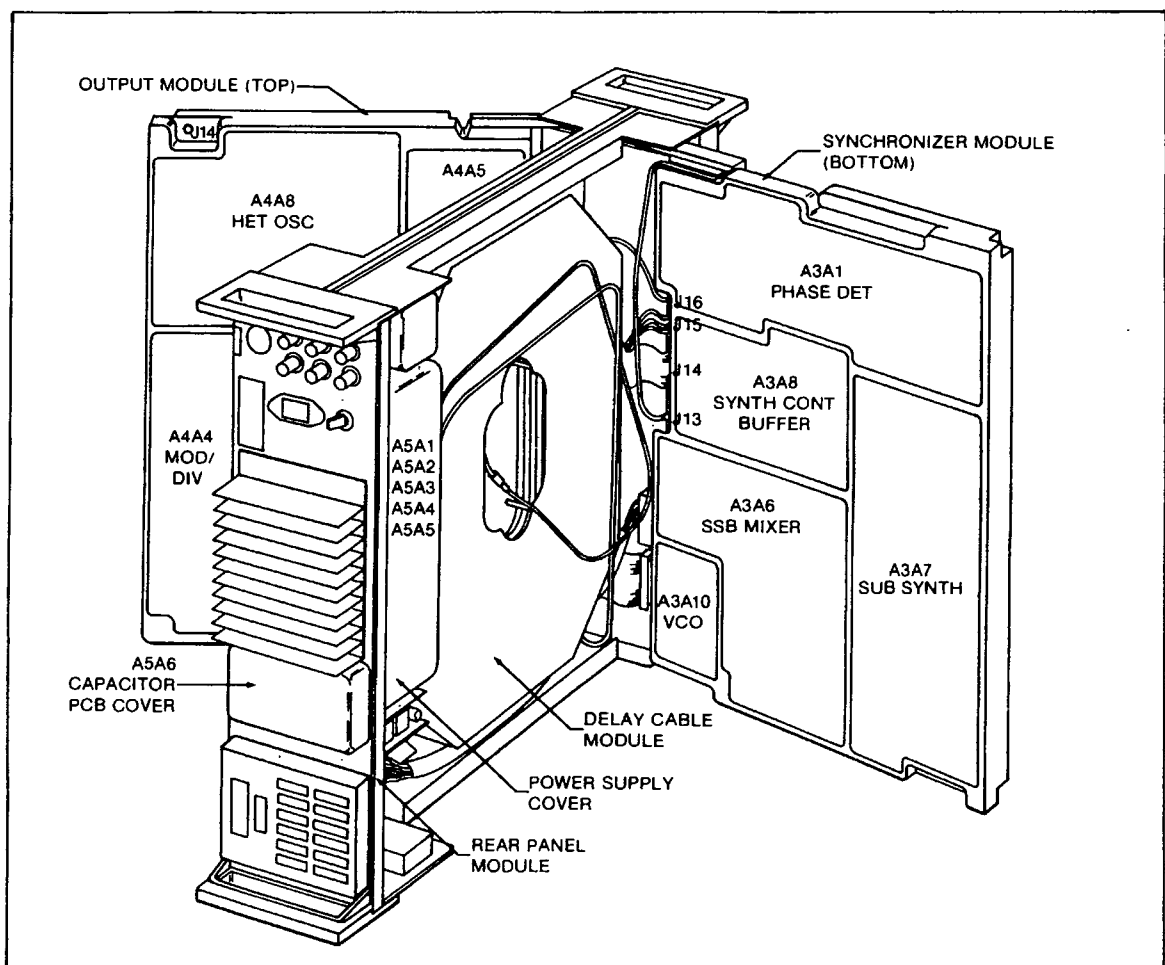
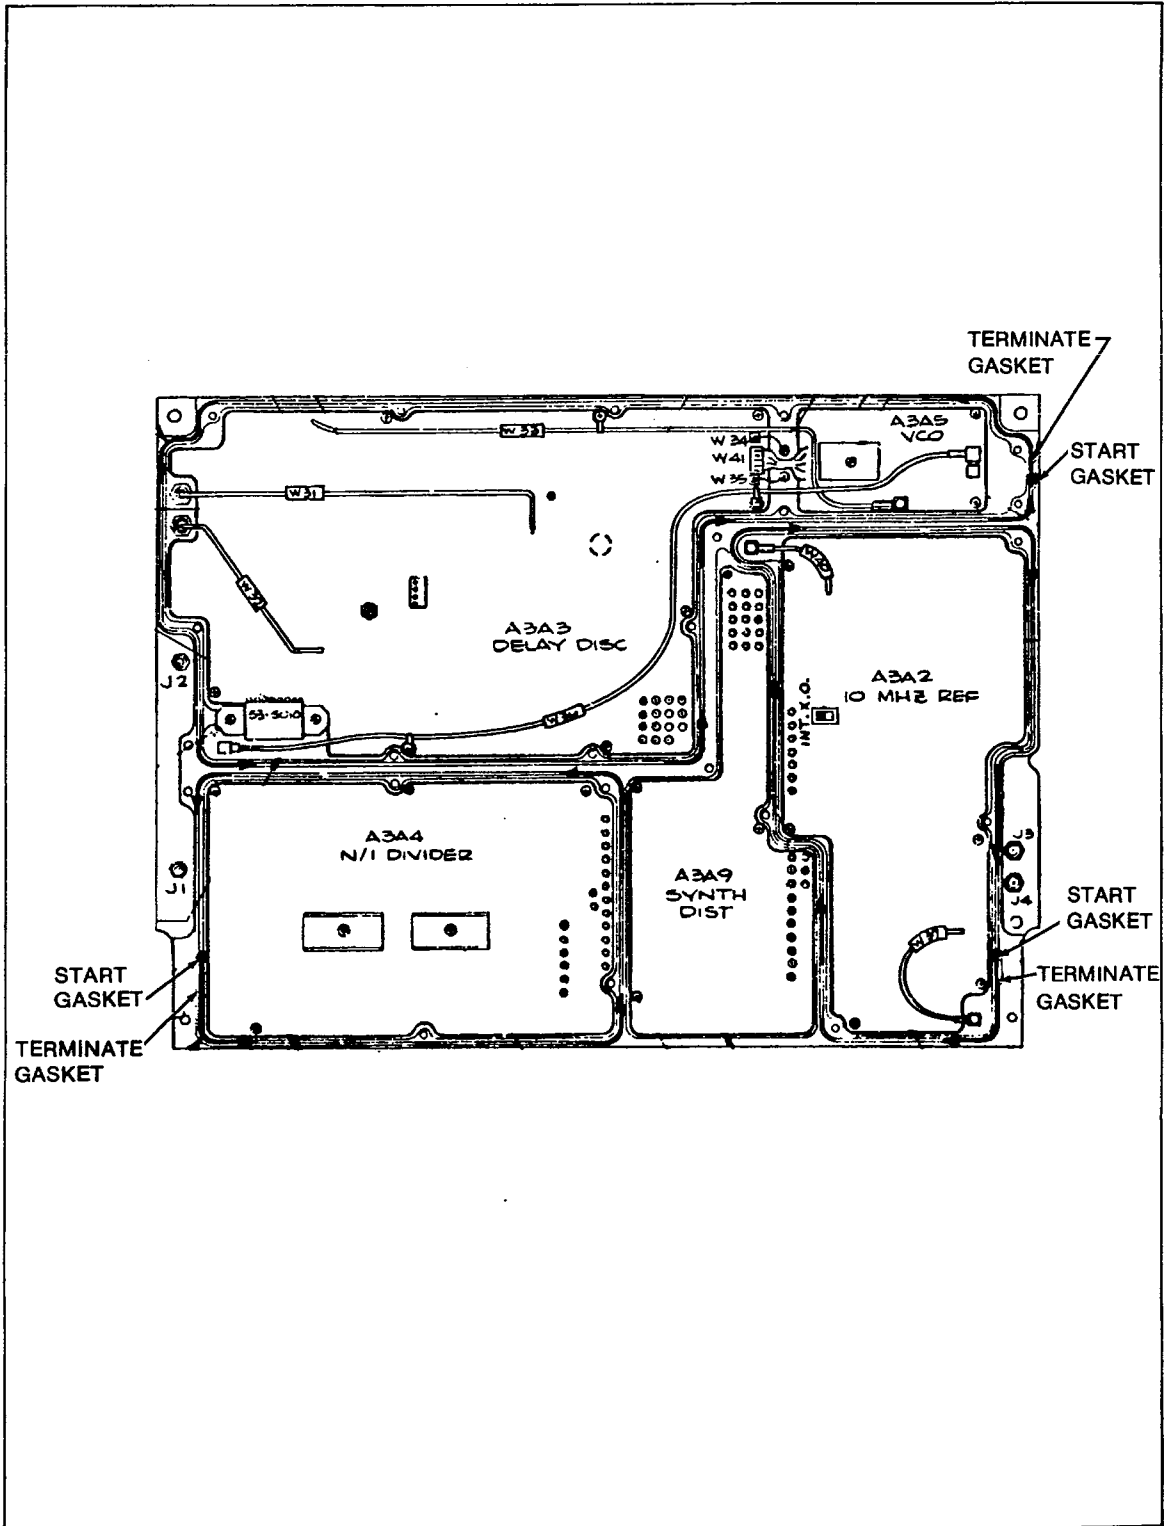
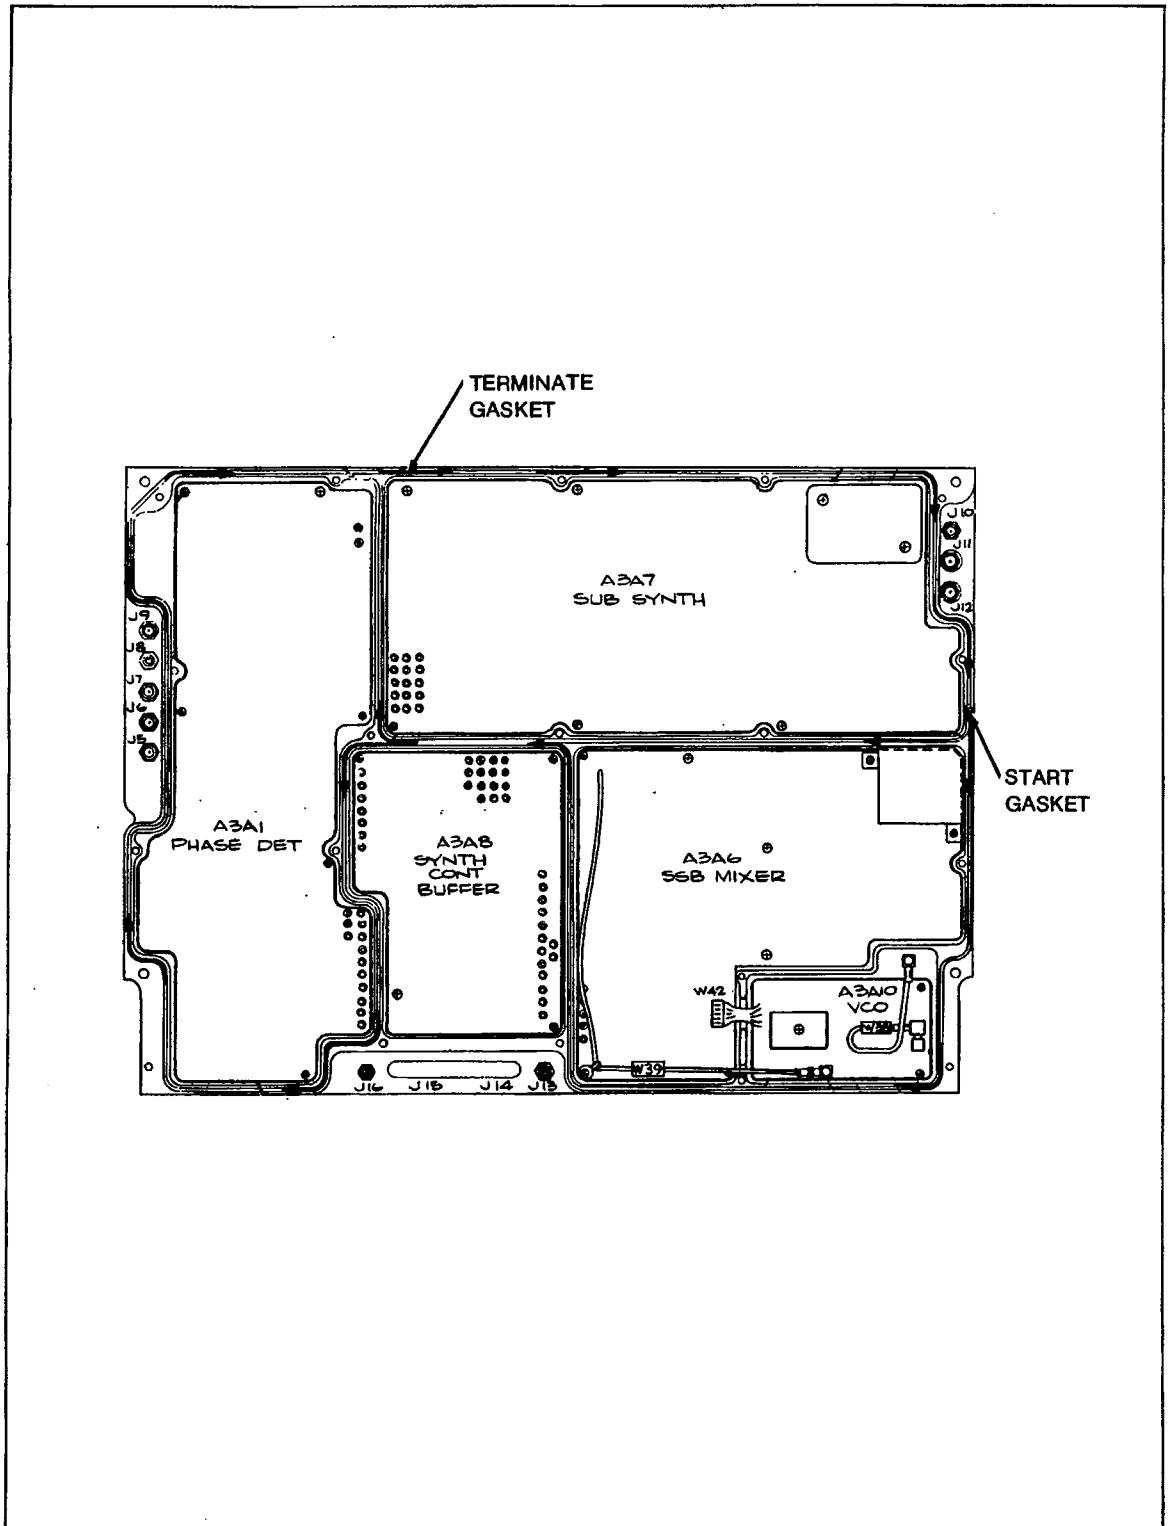
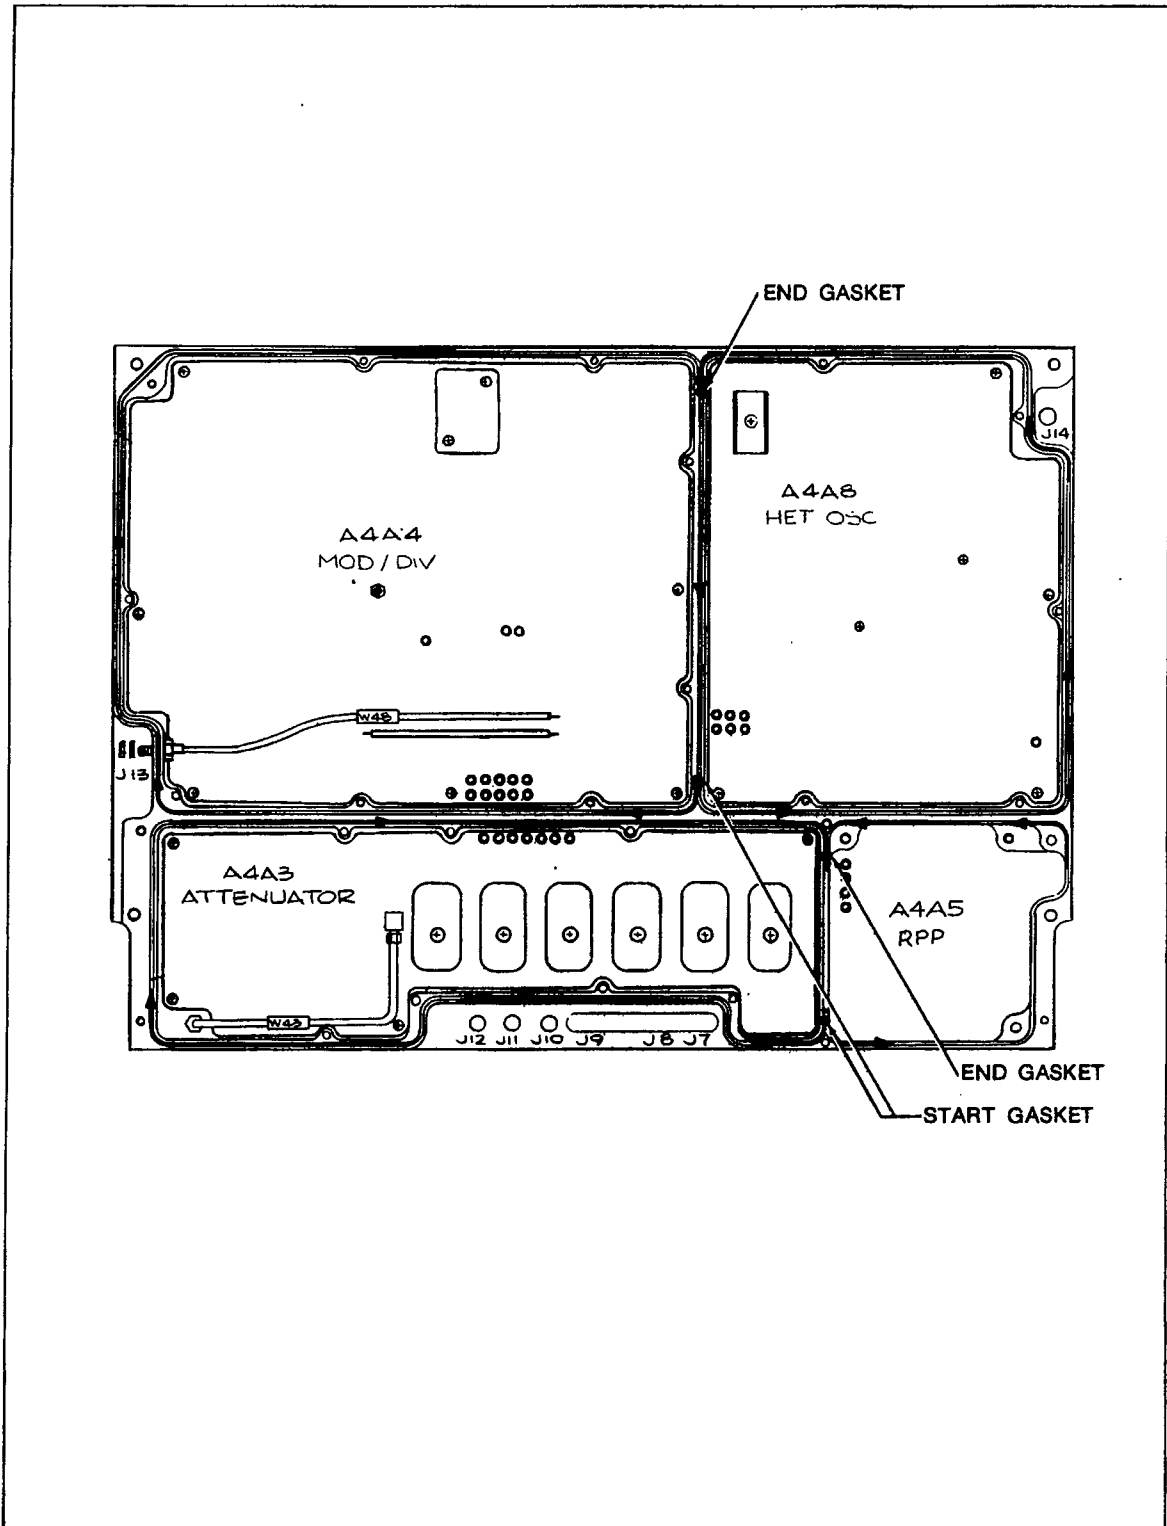

Figure 3-1. 6070A/6071A Opened for Maintenance
Figure 3-2. Top Synthesizer Module
Figure 3-3. Bottom of Synthesizer Module
Figure 3-4. Top of Output Module
3-4. The locations of the major assemblies of the 6070A/6071A are illustrated in Figure 3-1. The synchronizer module and the output module swing out from the center cable assembly. Circuit boards are located on each side of the synchronizer module and output module. Figures 3-2 and 3-3 illustrate the circuit board locations for the synchronizer module, and Figures 3-4 and 3-5 illustrate the circuit board locations for the output module. The 6070A and 6071A can be energized for maintenance purposes when opened up as shown in Figure 3-1.
1. Make sure that the RF gasket is in place. The gasket should start and end as shown in Figure 3-2. Inspect the RF gaskets for damage (areas that are folded over, worn, or pinched).
- a. Start the RF gasket at screw number 13 (Figures 3-2 and 3-6).
1. Make sure the RF gaskets are in place. The gaskets must start and end as shown in Figure 3-2. Inspect the RF gaskets for damage (areas that are folded over, worn, or pinched).
2. If the RF gaskets fall out, replace them as shown in Figure 3-2.
- c. The end of the gasket must continue past (overlap) the beginning of the gasket as shown in Figure 3-2.
3-28. The A3A1 Phase Detector PCB, A3A6 SSB Mixer PCB, A3A7 Sub-Synthesizer PCB, A3A8 Synthesizer Control Buffer PCB, and the A3A10 VCO PCB are located in the bottom of the Synthesizer Module (Figures 3-1 and 3-3). The access procedure allows access to the printed circuit boards for troubleshooting procedures. After the cover has been removed, the cover screws must be torqued back in place to insure specific RF integrity. Figures 3-3, 3-8, 3-9, and 3-10 illustrate the disassembly and assembly procedures.
1. Make sure that the RF gaskets are in place (Figure 3-3) and inspect the RF gaskets for damage (areas that are folded over, worn, or pinched).
a. Start the Rf gasket at the appropriate START GASKET point shown in Figure 3-3.
b. Traveling in the direction indicated in Figure 3-3, press the gasket into the groove.
c. The end of the gasket should be at the TERMINATE GASKET point shown in Figure 3-3.